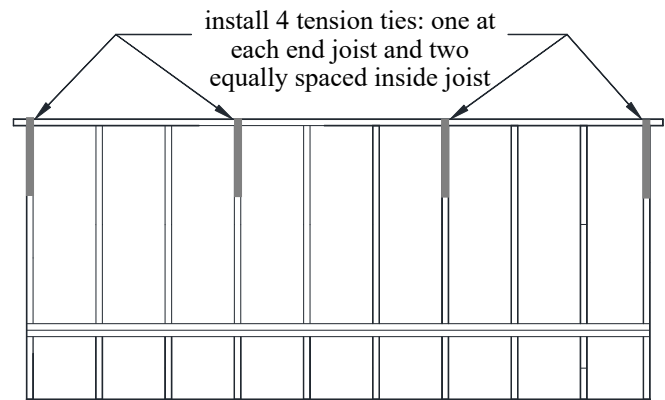

Figure 26: Method 1-Tension Tie Location
- Install one tension-tie at each end joist and install the remaining two to inside joists equally spaced along the width of the deck as shown in FIGURE 26. A set of tension-ties shall be installed for each structurally independent section of deck.